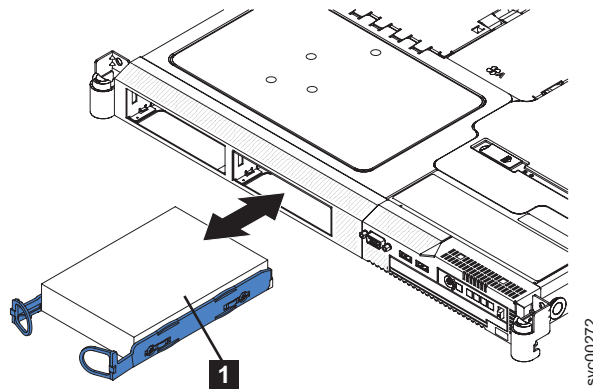

Figure 119. Removing the SATA disk drive from the SAN Volume Controller 2145-8G4
4. Pull the loops of the drive tray (shown in Figure 119 on page 393) toward each other and pull the tray out of the bay.